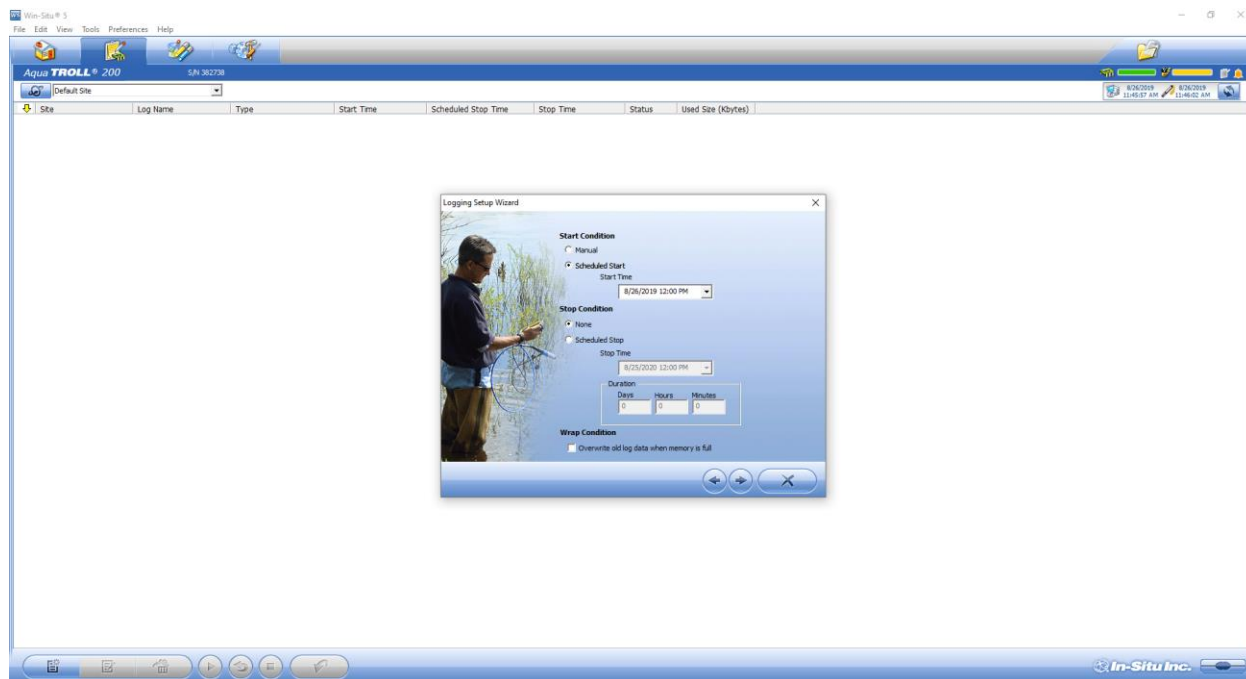

Figure 17. Schedule Start Condition to Start at an Even 5 Minute Interval to Align Timestamps
9. Select **Scheduled Start** for the **Start Condition** (Figure 17). *The Start Time must start on an even five (5) minute interval to align timestamps.* Leave “None” for the **Stop Condition**. Leave the **Wrap Condition** blank. Click the “X” to continue.